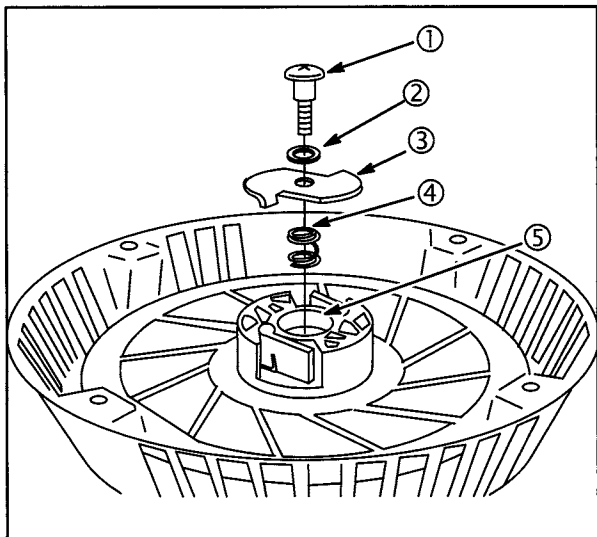

Fig. 64
2. Remove shoulder screw (1), small washer (2), retainer (3), brake spring (4) and large washer (5), **Fig. 64**.